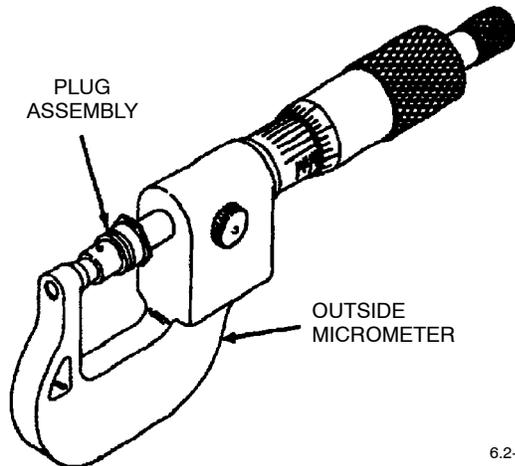

Figure 13. Measure Overall Length of Plug
- b. Measure overall length of plug. Replace plug if total length is less than 0.706-in. (Figure 13). (QA)